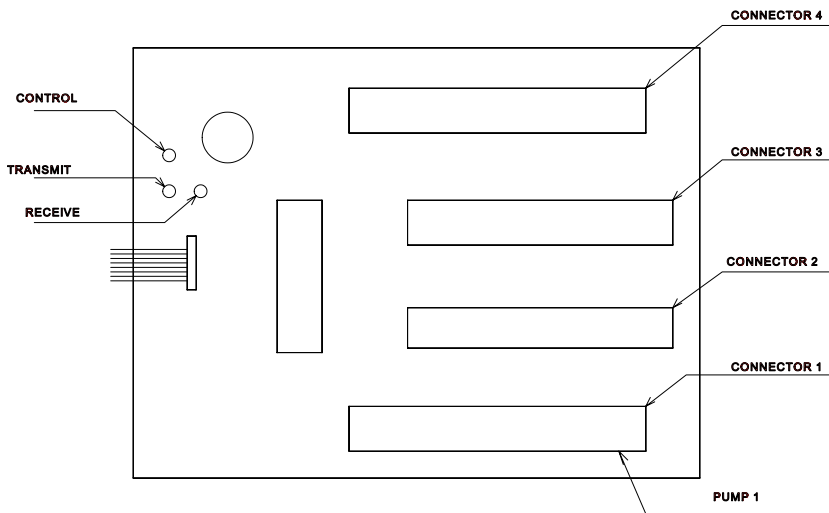

Figure 9: Configurator Box for Kraus 16-Hose Systems
1. Connect the data wires (TTC, TTP, DCC) into the pump connectors on the configurator box for the Kraus system. Refer to Figures 9, 10, and 11, as well as Table 6.